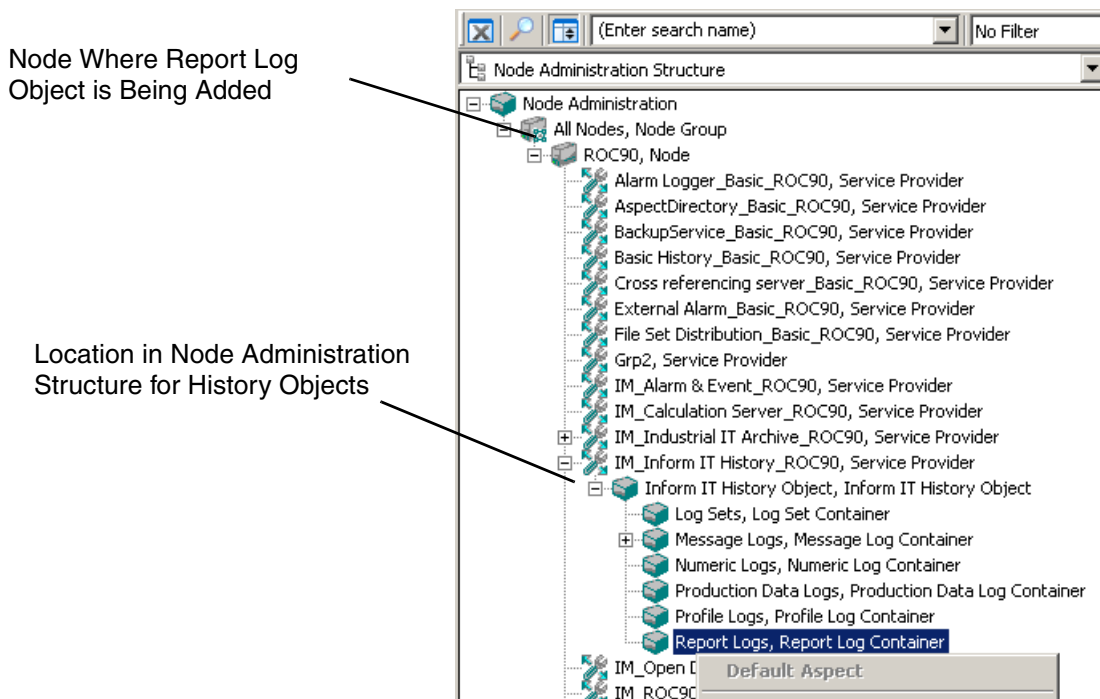

Figure 111. Adding a Report Log in the Node Administration Structure
This section describes how to add a Report Log object to the applicable node in the Node Administration Structure. To do this (reference Figure 111):
2. Navigate to and expand the object tree for the node where the report log is to be added (for example, ROC90 in Figure 111).